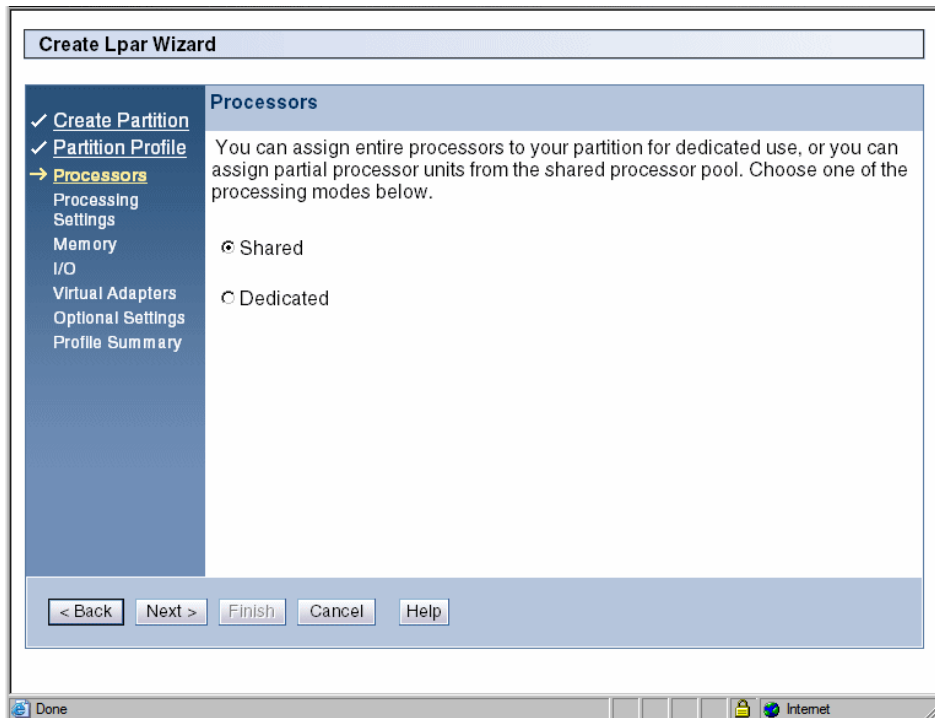

Figure 7-11 Create a shared processor partition
1. Select **Shared** and then select **Next**, as shown in Figure 7-11.